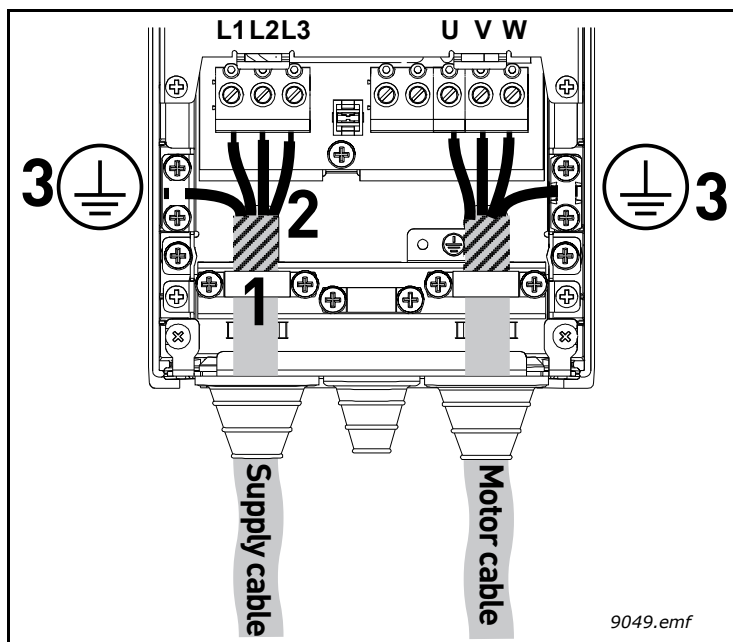

Figure 29.
- Connect the stripped cables (see Figure 22 and Table 19) as shown in Figure 29.
- Expose the shield of all three cables in order to make a 360-degree connection with the cable clamp (1).
- Connect the (phase) conductors of the supply and motor cables into their respective terminals (2).
- Form the rest of the cable shield of all three cables into “pigtailed” and make a grounding connection with a clamp as shown in Figure 29 (3). Make the pigtailed **just long enough** to reach and be fixed to the terminal - not longer.